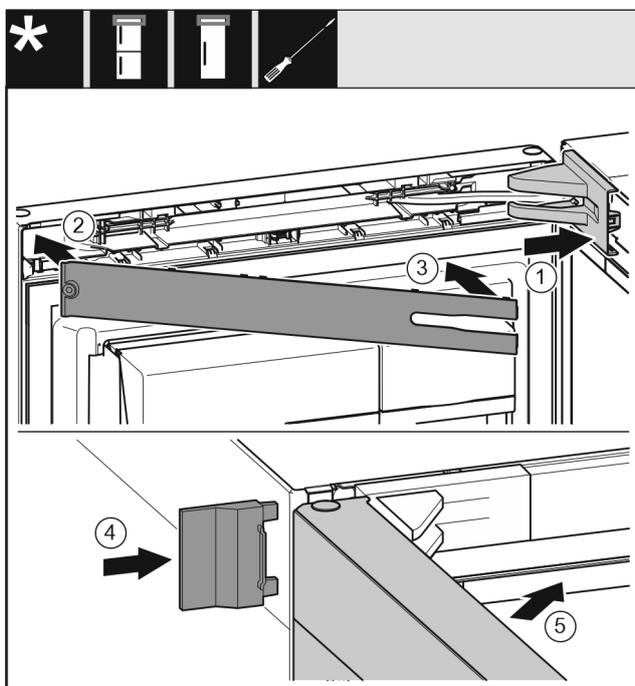

Fig. 22
- ▶ Position the bearing bracket cover and engage it. If necessary push it apart carefully. Fig. 22 (1)
- ▶ Place on the panel. Fig. 22 (2)
- ▶ Swing in the panel and latch it into place. Fig. 22 (3)
- ▶ Slide on the outer cover. Fig. 22 (4)
- ▶ Close the upper door. Fig. 22 (5)